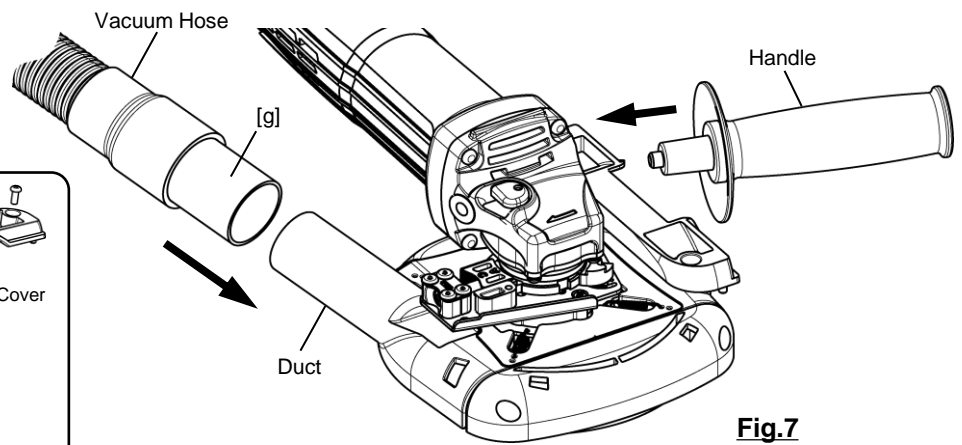

Fig.7
6. Attach the Handle to the Grinder and connect the Vacuum Hose into the Duct with [g] Joint. (Fig.7)